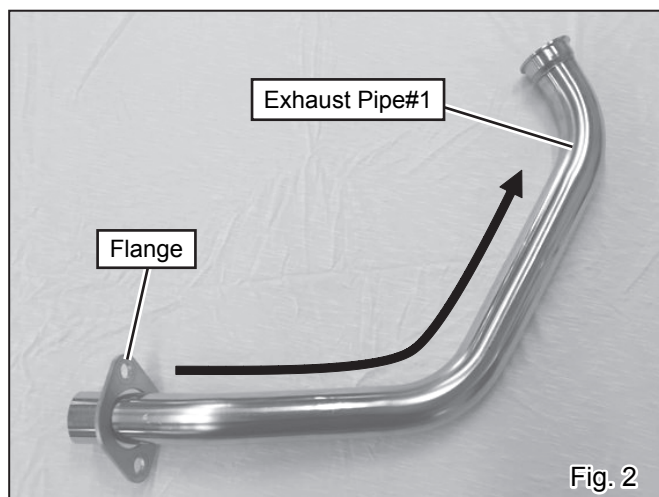

Fig. 2
- 3) Install Flange to Exhaust Pipe#1 (See Fig. 2).